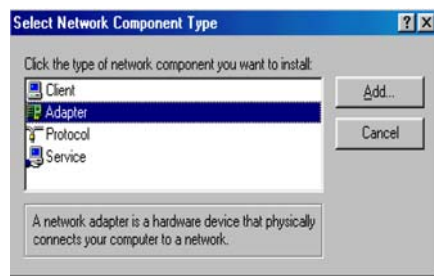

Figure 12 Select Network
6. Then click **Add**. (See Figure 12).